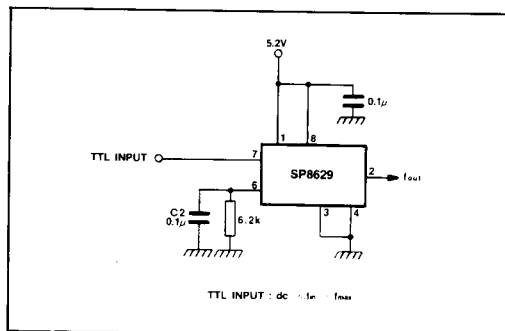

Fig.7 TTL input (DC <math><I_{in}</math> <math><I_{max}</math>)
4. The input waveform will normally be sinusoidal but below 10MHz correct operation depends on the slew rate of the input signal. A slew rate of 50V/ μs will enable the device to operate down to DC. The device will operate with a TTL input signal as shown in Fig. 7 and is DC coupled to the input.